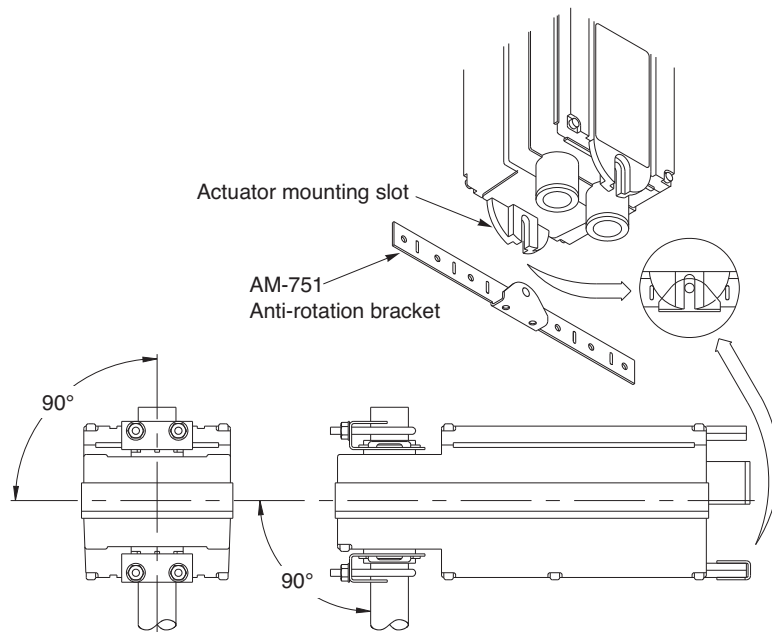

Figure-12 Mounting Anti-rotation Bracket to Actuator.
4. Align the actuator at 90° (perpendicular) to the damper shaft. See Figure-12.
5. Slide the anti-rotation bracket pin into the mounting slot on the actuator and drill mounting holes. See Figure-12. For narrow spaces the AM-752 anti-rotation bracket is recommended (order separately).
6. Assemble the damper actuator onto the universal shaft extension, allowing the extension to slide through the actuator’s universal mounting clamps. Make sure the actuator is 90° (perpendicular) to the damper shaft. Then, hand tighten the nuts on both of the actuator’s universal mounting clamps. See Figure-12
7. Slide the anti-rotation bracket pin into the mounting slot on the actuator. See Figure-12. For narrow spaces, the AM-752 anti-rotation bracket is recommended (order separately).